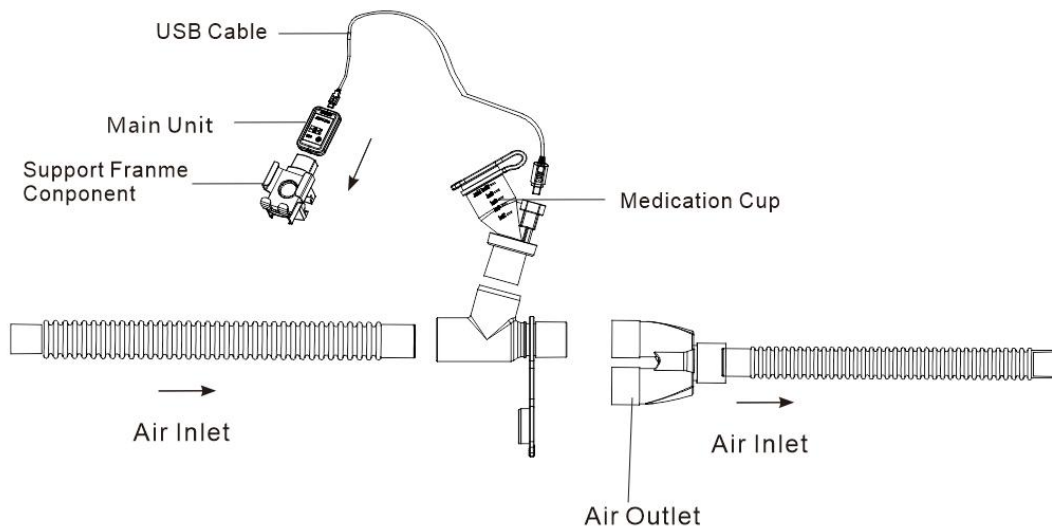

Figure 7. Connecting the T-Piece to an adult breathing circuit
- 3) For 22 mm adult breathing circuits connect the nebulizer with Adult T-Piece into the inspiratory limb of the breathing circuit before the patient Y (Figure 7).